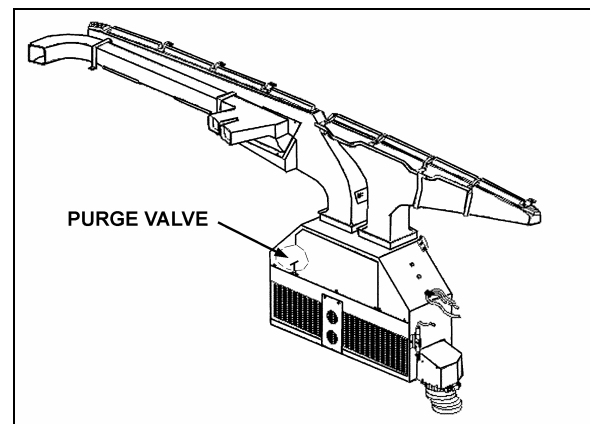
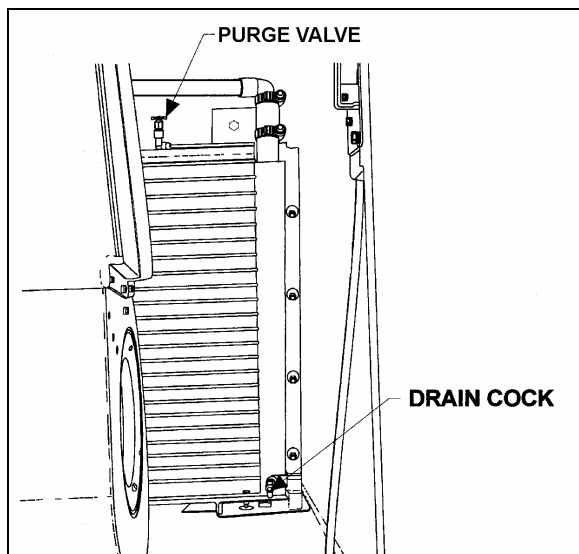

FIGURE 46: DRIVER'S UNIT AIR MIXING BOX 22171PV
FIGURE 47: PASSENGER'S UNIT HEATER CORE (H3 COACHES)
4. From inside of vehicle, remove the grill and the access panels. Open the purge valve located inside the driver's unit (Figure 46) to ensure an efficient draining.
4. Open drain cock in bottom of heater core, then open purge valve located on top of heater core (Figure 47) in order to allow air to enter while draining.
Whenever the heating system has been drained and refilled, or the system has run low on coolant and coolant has been added, it is necessary to bleed air from heating system. Locate the purge valve illustrated in Figure 46 and Figure 47, and open them momentarily until no air escapes from the lines.